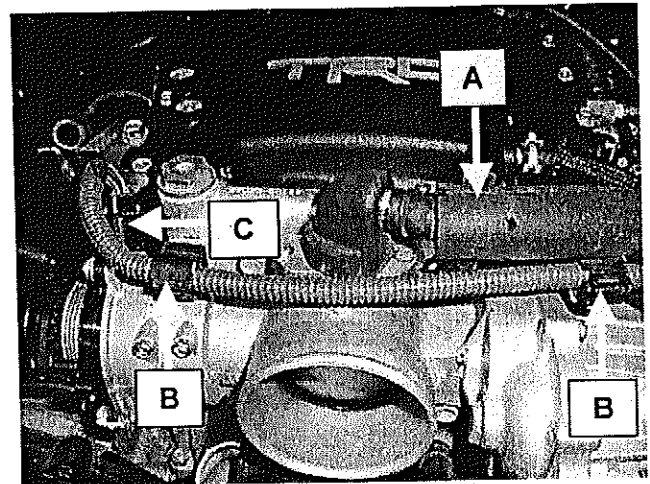

Figure 5
8. Remove the PCV hose from the throttle body and cam cover (Arrow A, Figure 5).
9. Remove the throttle position sensor loom clips (B Arrows, Figure 5) from the throttle body and unplug the sensor connector (Arrow C, Figure 5).